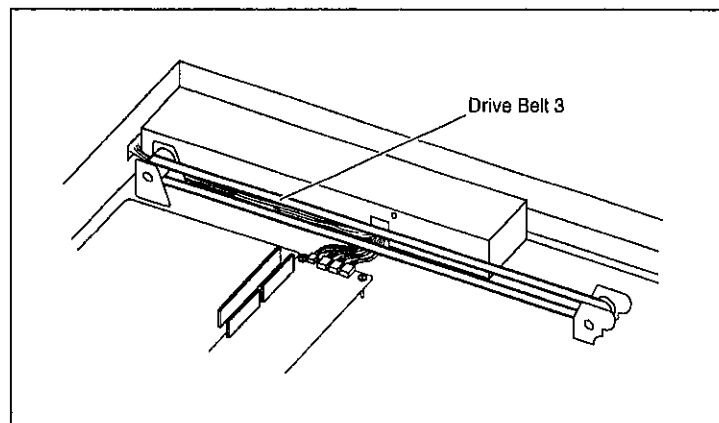

Fig. 8-26
- 2) Remove Drive Belt 3, as shown in Fig. 8-26.